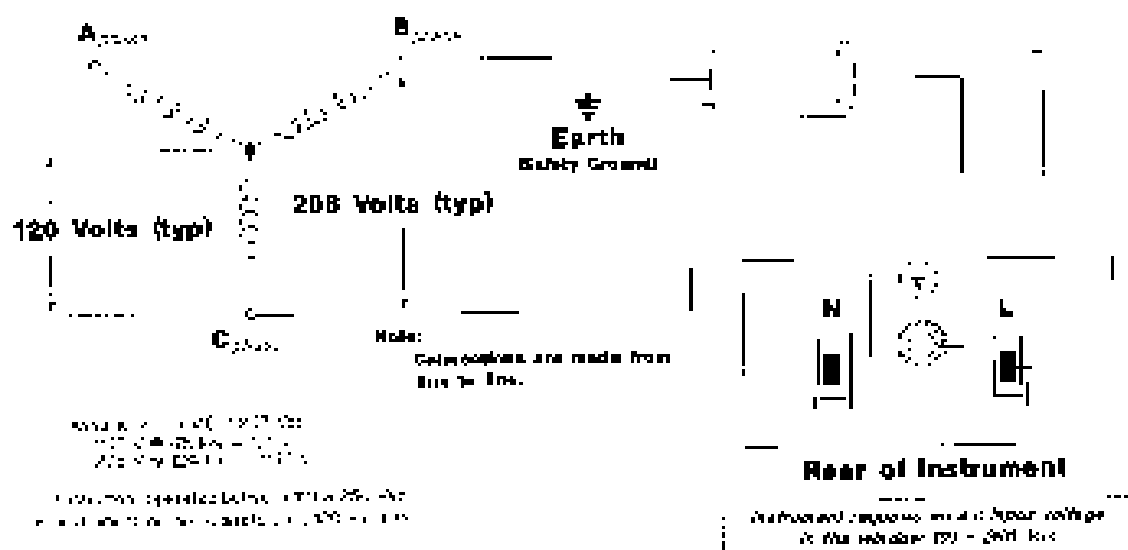

Figure 2-3. 667xA Connection to a 3-Phase Line
1. If they are not already in place, position the strain relief connector (1), safety cover (5), rubber boot (3), and connector nut (6) on the power cord (7).
2. Secure the ground wire (2) to the chassis earth ground stud.
3. For single-phase operation, connect the neutral wire (1) to the N input terminal and the line wire (3) to the L input terminal (this line is fused inside the supply).
4. For line-to-line operation from a three-phase source as shown in Figure 2-3, connect one phase to the N input terminal and another phase to the L input terminal (this line is fused inside the supply).